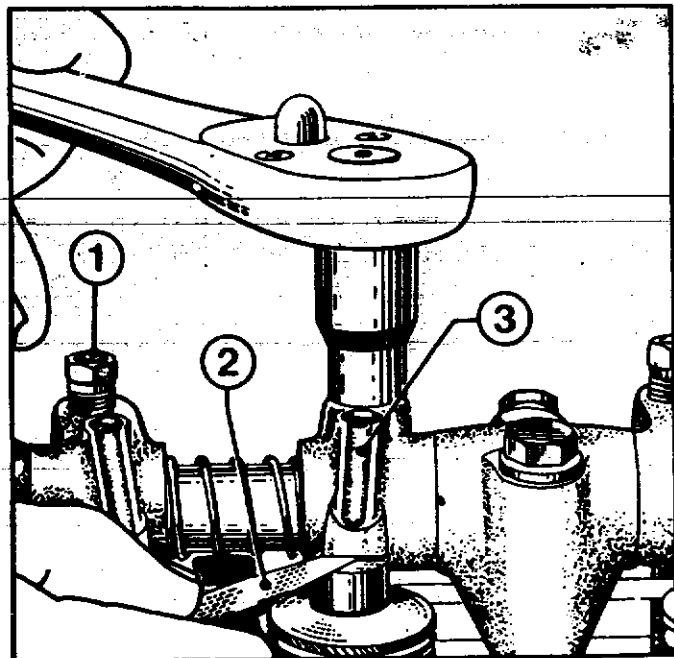

Fig. 33 Valve Clearance Adjustment
30. Adjust the valve clearances (Fig. 33). The clearances must be set initially to give a gap of:—